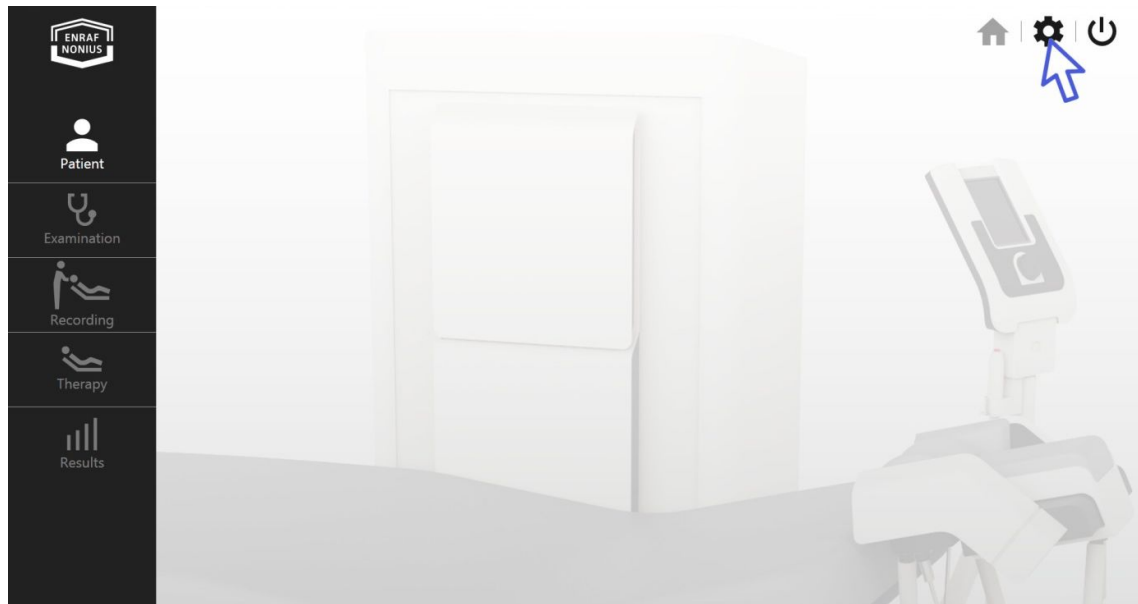

fig. 95
- Select the setting icon in the main menu (fig. 95).